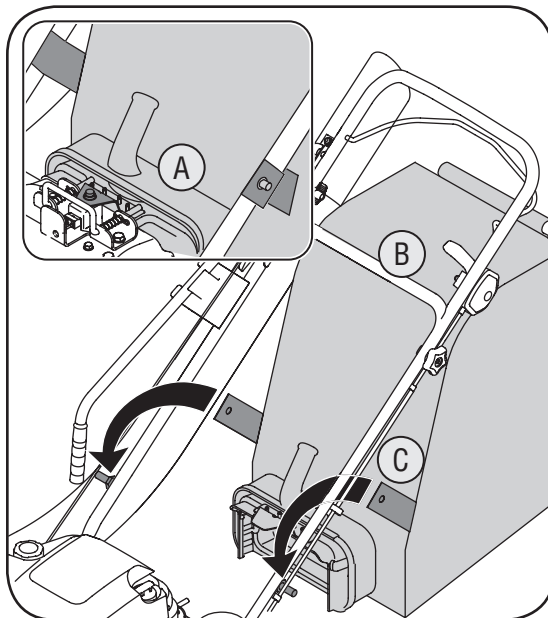

Figure 7
- a. Slip bag over the rim of the discharge opening and release locking rod to secure bag in place. See Figure 7.
- c. Place the lower straps on the bag over the top of lower handle, hooking them on the studs. See Figure 7.